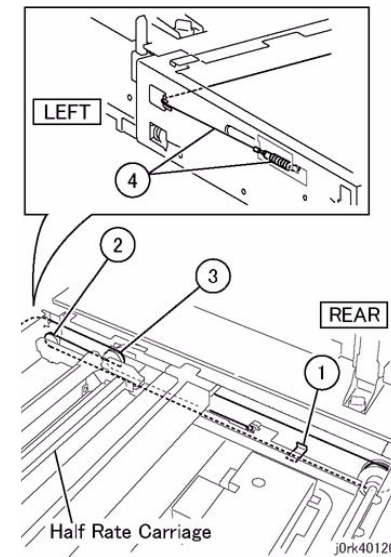

Figure 11 Carriage Cable Spring End
5. Install the spring end of the Carriage Cable. (Figure 11)